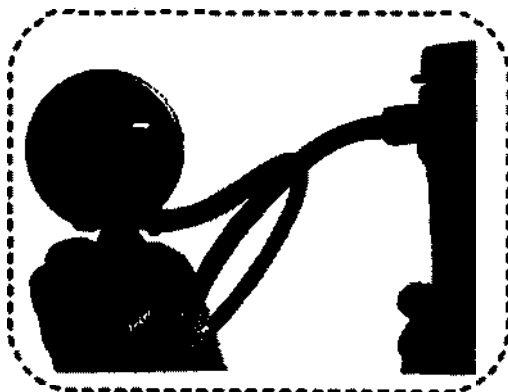

Fig 7.11
- Only the duct of leakage tester and the Pressure compensation cap can be immersed.(as shown in Fig 7.11).Immersion of other components of the leakage tester may lead to its damage.
- The pressure shall not exceed 240 mmHg. If the pressure increases too much, it might damage the endoscope. Press the pressure release valve to discharge the air (as shown in Fig 7.11).